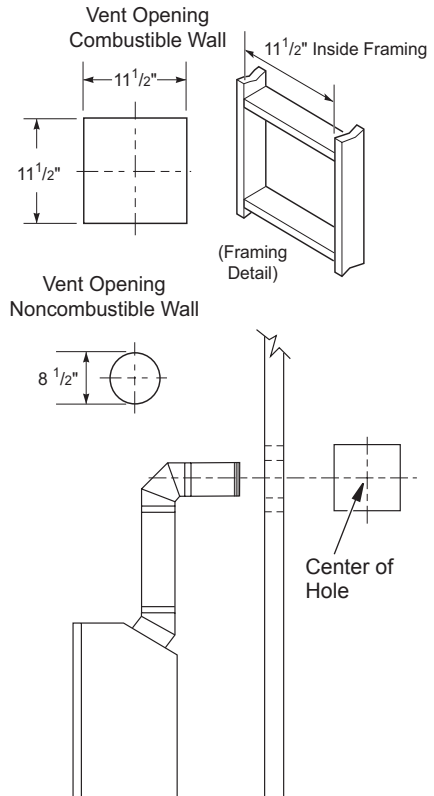
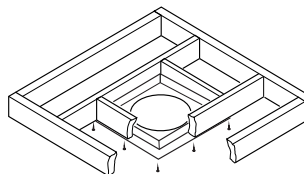

Figure 9 - Vent Opening Requirements
Figure 20 - Installing Firestop
5. Carefully determine location where vent pipe assembly will penetrate outside wall. Center of hole should line up with center line of horizontal vent pipe. Mark wall for a 11 1/2" x 11 1/2" square hole. Cut and frame square hole in exterior wall where vent will be terminated. If wall being penetrated is constructed of non-combustible material, such as masonry block or concrete, a 8 1/2" hole with zero clearance is acceptable (see Figure 9).
dimensions, as shown in Figure 9 on page 10 using framing lumber the same size as ceiling joists. If area above ceiling is an insulated ceiling or an attic, nail firestop from top side. This prevents loose insulation from falling into required clearance space. If area above ceiling is a living space, install firestop below framed hole. Firestop should be installed with no less than three nails per side (see Figure 20).
3. Cut a hole in the roof using locating hole as a center point. (Cover any exposed open vent pipes before cutting hole in roof.) The 11 1/2" x 11 1/2" hole must be measured on the horizontal; actual length may be larger depending on pitch of roof. There must be a 1" clearance from vent pipe to combustible materials. Frame opening as shown in Figure 9, page 10.